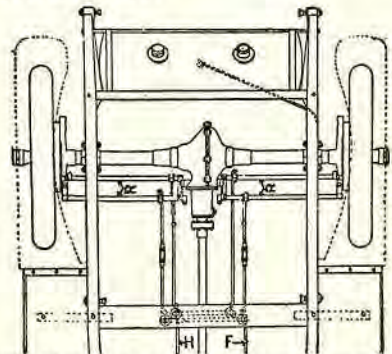

Fig. 22. Method of connecting the two brakes in rear. The adjustment for equalizing the pull on each rod, can be made at the turn buckles.
To overcome this, a brake equalizer is used, the principle of which is shown in Fig. 22. The rods (R) are placed in bearings; the rod (F), connects with the foot brake, and rod (H) with the hand brake.